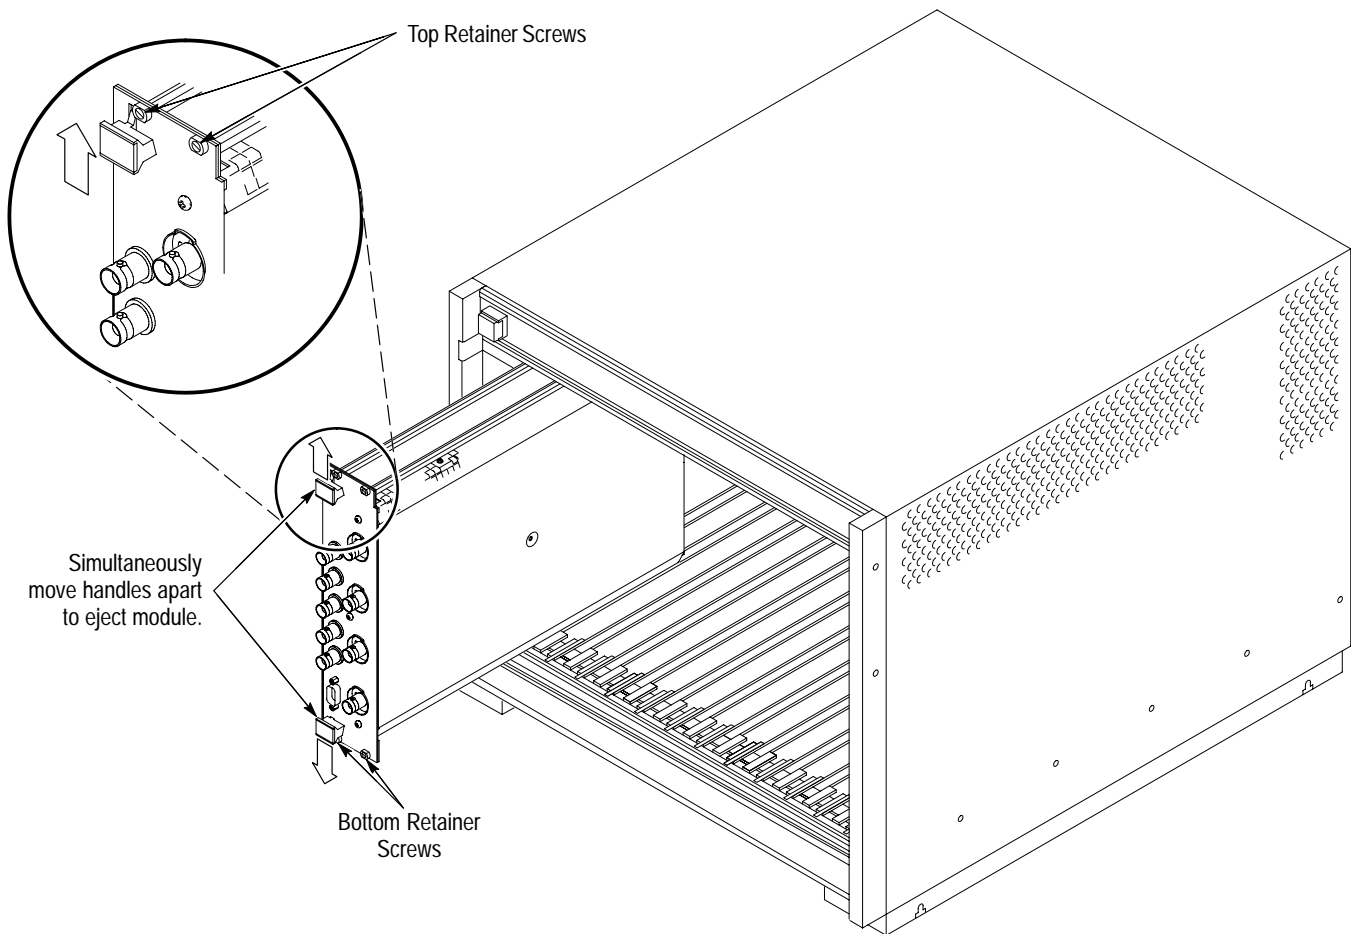

Figure 1-2: Module Retainer Screws and Ejector Mechanism
2. Using a flat-blade screwdriver, loosen the top and bottom retainer screws (Figure 1-2).